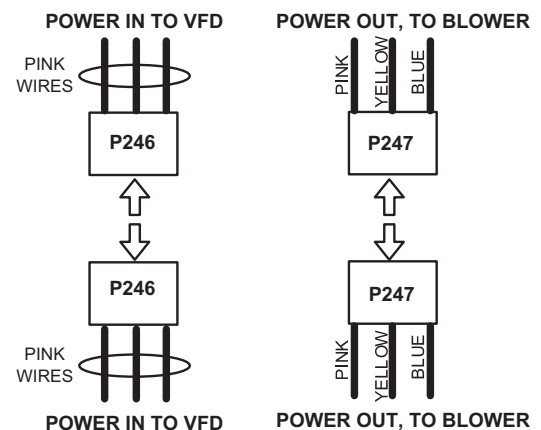

FIGURE 49
- 3 - Disconnect P246 from P246 (power in to VFD) and P247 from P247 (power out to blower). See FIGURE 49.